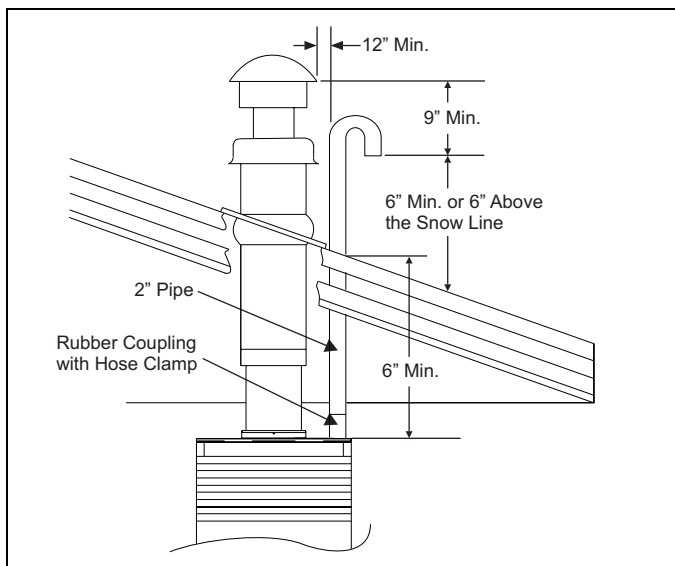

FIGURE 26: Combustion Air Inlet Pipe
Only use the appropriate roof jack. See Figures 26, 27, 30, and 31 for correct application.
Therefore, if the furnace will be located in regions where snow accumulation on the roof exceeds 4" or in H.U.D. Snow Load Zones, a roof jack extension and PVC combustion air inlet extension is recommended. Refer to Figure 26 or 27.
4. Insert combustion air inlet coupling into casing. See Figure 26 or 27.
9. Attach elbow assembly to combustion air inlet piping. See Figure 26 or 27. Inlet must be minimum 6" (15.2 cm) above highest anticipated snow level, but no more than 24" (61.0 cm) above roof.